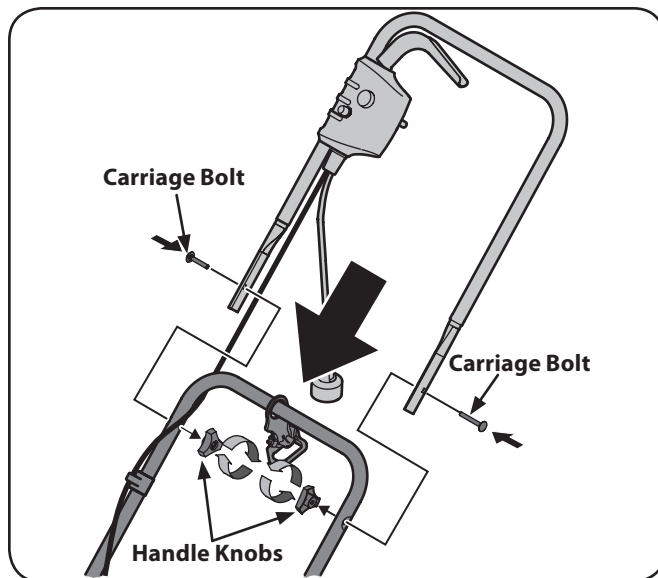

Figure 3-3
2. Attach the upper handle to the mid handle using one carriage screw and handle knob on each side. See Figure 3-3.